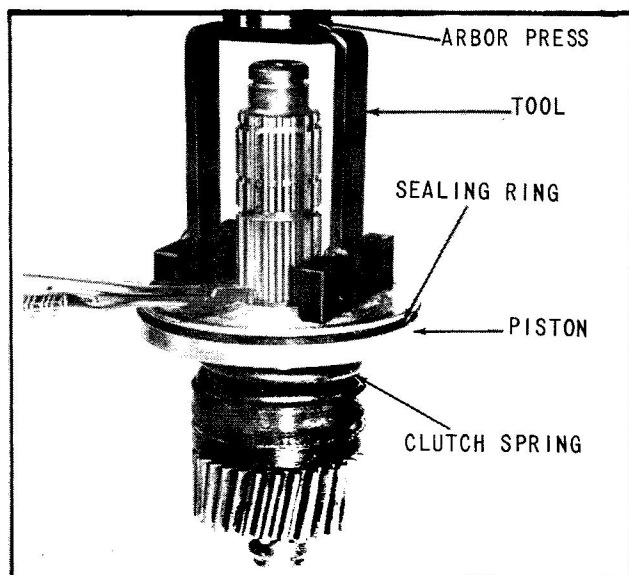

Fig. 23 Remove Snap Ring
10. Position remaining clutch parts, with a suitable tool placed against rear of clutch piston, on an arbor press and compress clutch return spring while snap ring, located just behind piston, is removed from shaft, (Fig. 23).